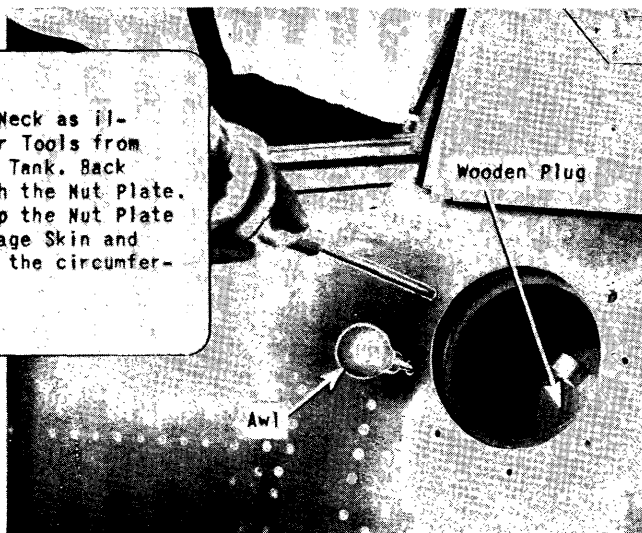

Figure 232 - Bolting Filler Neck in Place Through Fuselage Skin
(5) Insert a wooden plug in the filler neck opening (figure 232) to keep screws and tools from accidentally falling into the tank.
(7) Insert an awl or punch in one of the holes in the fuselage skin to line up the holes with those in the nut plate. (See figure 232.) Insert the top screw and work around the opening until all screws are inserted. Tighten all screws, but do not tighten excessively.